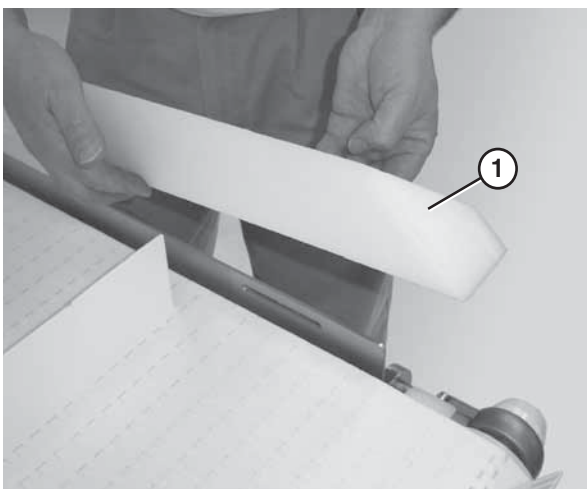

Figure 48
2. Remove the guide (**Figure 48, item 1**).